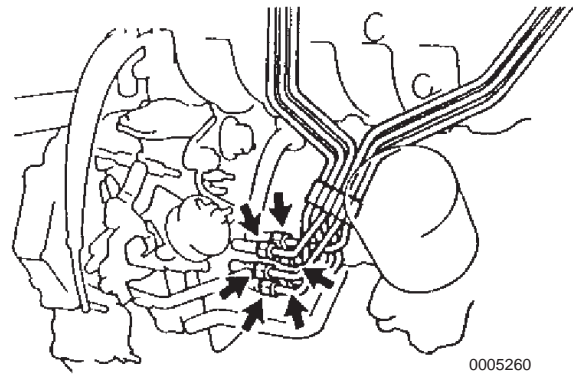

Figure 6-11
6. Remove the union nut of the fuel injection pipe from the fuel injection pump (**Figure 6-11**).